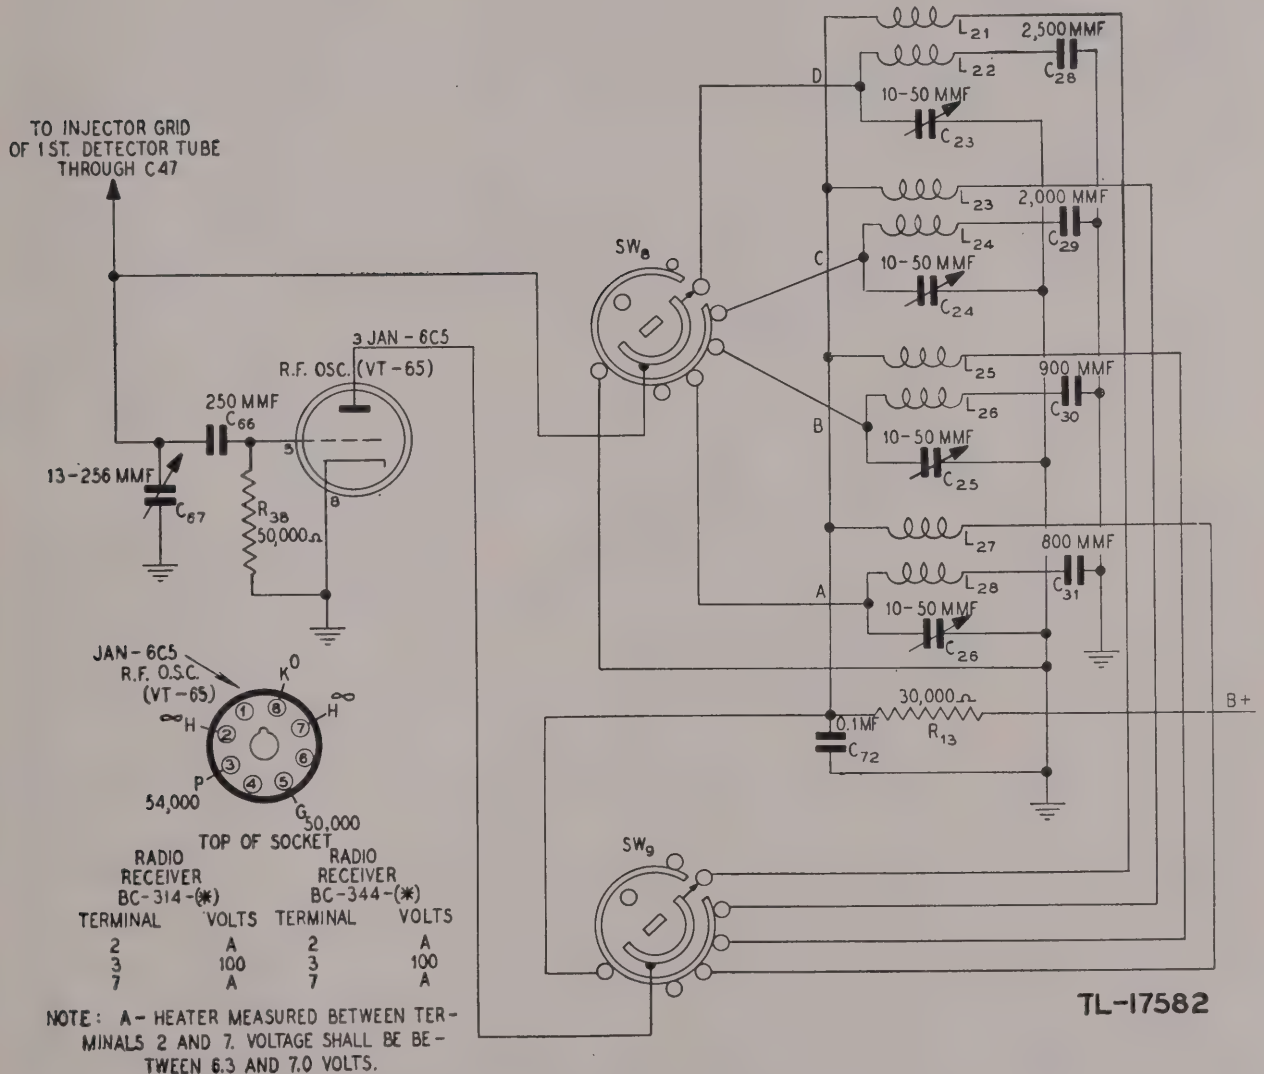

Figure 22. R-f oscillator, schematic diagram.
b. VOLTAGE AND RESISTANCE MEASUREMENTS. The voltage and resistance measurements shown in figure 22 are made in the manner and under the conditions listed in paragraph 40b.